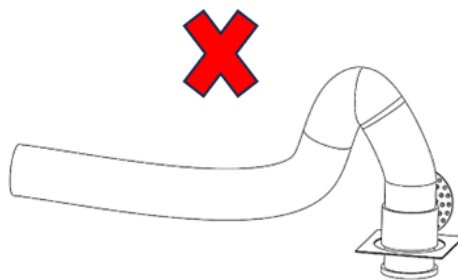

FIGURE 2-15
- Keep the hose as straight as possible; avoid bending or tangling (Fig 2-15).